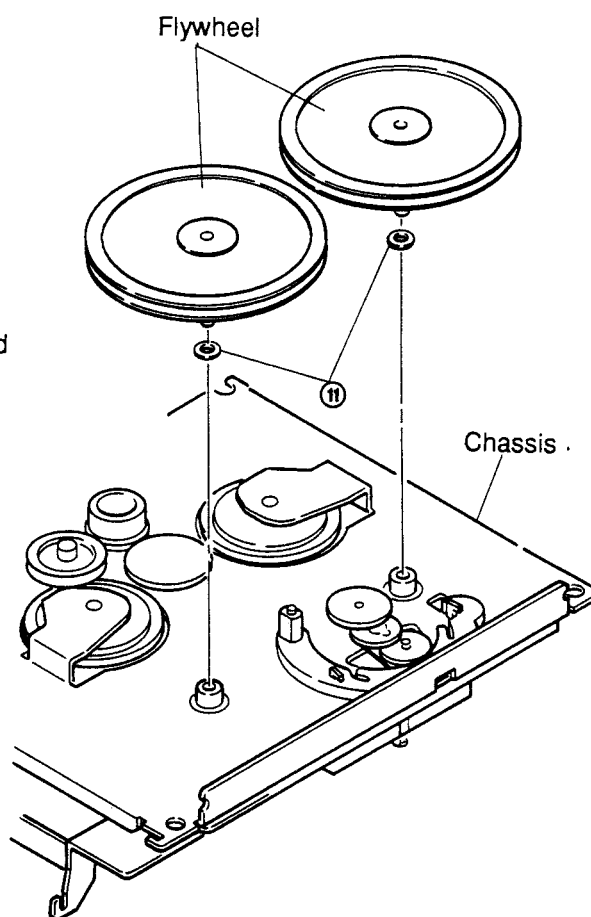

Figure 12
- (1) After removing the belt, pull out the two flywheels. Take care not to lose the polyslider washer ⑪ located between the flywheel and the chassis. (Refer to Figure 12.)
- (2) Fix the polyslider washer to the new flywheel and mount the flywheel to the chassis.